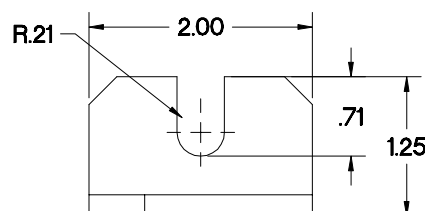

Figure 3-1
3. Place the PV-10208 bottom mounting ears, shown in **Figure 3-1** and **Figure 3-2** onto installed lag bolts. (See following page.)